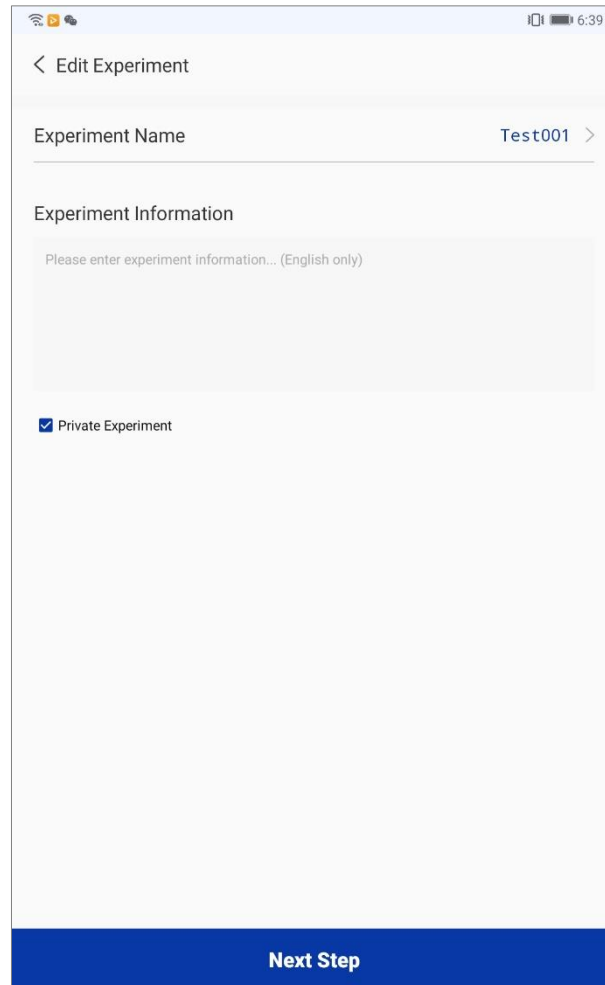

Figure 5-6a. Experiment Interface - Edit Experiment Name and Information
- ▶ First, user can edit experiment name and experiment information, as shown in figure 5-6a.